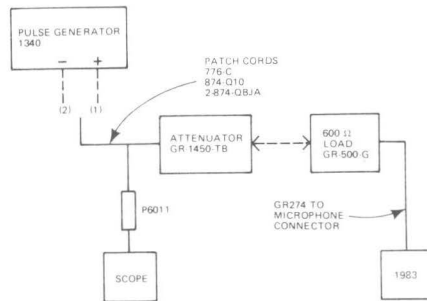

Figure 5-3. Test set-up for detector balance check.
a. Arrange the test setup shown in Figure 5-3, connect to position 1 (+ PULSE) on the 1340.
e. Move the 1450 connection to position 2 of Figure 5-3 (- PULSE output of the 1340). Adjust the - pulse amplitude for a 5 V pulse on the scope, using the large knob of the PULSE AMPLITUDE control.
h. Move the 1450 connection to position 1 of Figure 5-3 (+ PULSE output of the 1340). The reading on the 1983 meter should be within 1 dB of the reading noted in the previous step.